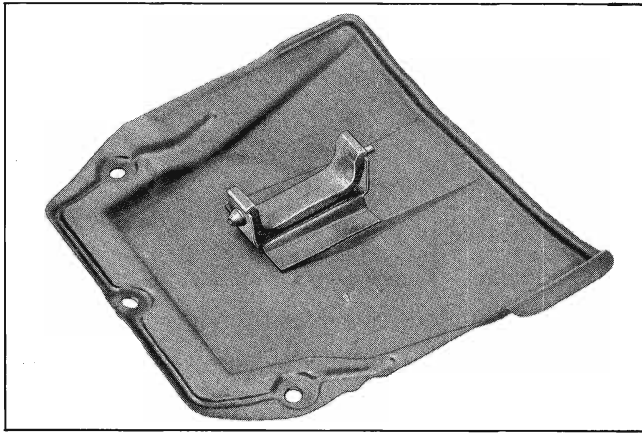

Fig. 10-3 Engine Fan Top Shield Assembly (Underside)
2. Remove engine fan top shield assembly. Note that the upper portion of the radiator is held by a "cradle" type bracket on the bottom side of the engine fan top shield assembly (Fig. 10-3).